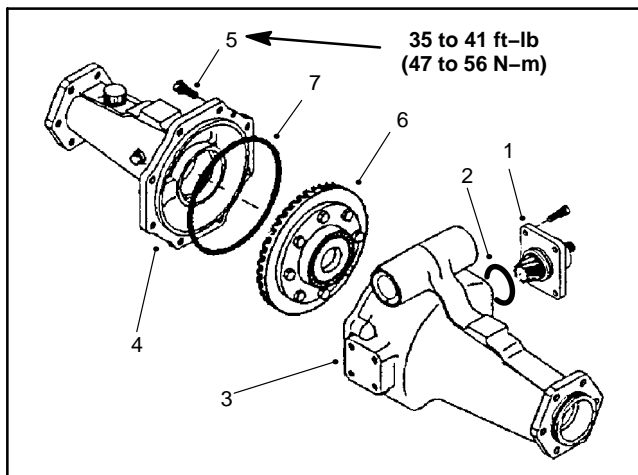

Figure 31
3. Remove input shaft/pinion gear assembly, shims, and O-ring from the axle support (Fig. 31).